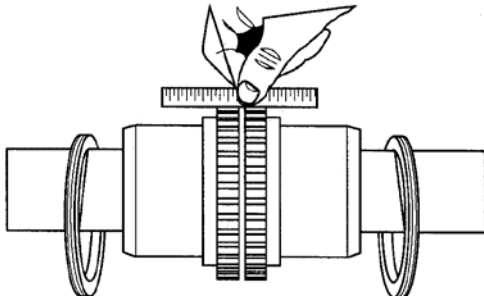

FIGURE 10D – USING STRAIGHT EDGE
9. Align so that a straight edge rests (as shown in Figure 10D) on both hubs and also at 90° intervals without rotating the coupler. Check with feelers. The clearance must not exceed the PARALLEL OFFSET installation limits specified in Figure 10H.